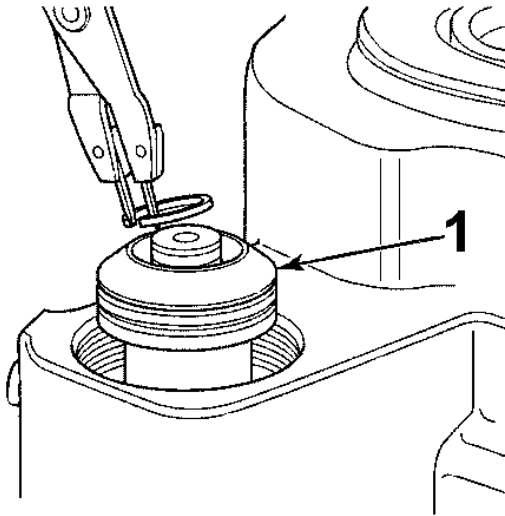

Figure 20 Remove Outer Piston
41. Remove the outer shift piston snap ring from the shift shaft and remove the shift piston (Figure 20).
46. Install O-rings onto the inner and outer diameter of the outer piston. Install the inner shift piston and snap ring onto the shift shaft (refer to Figure 20).